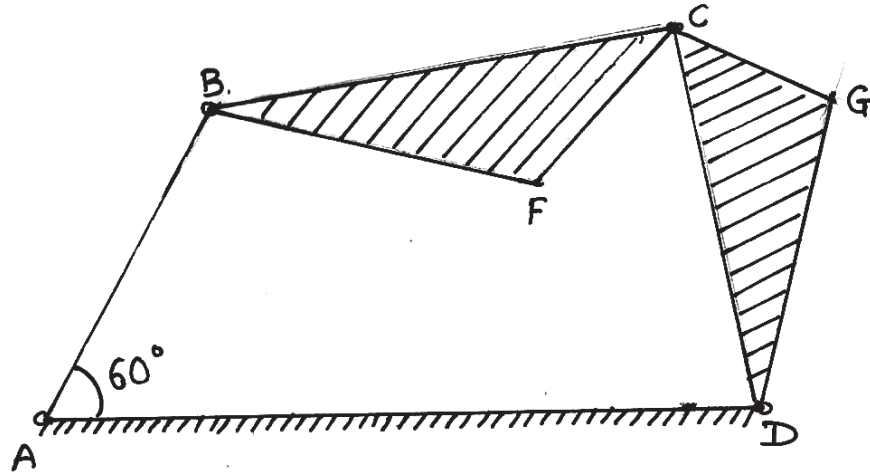

Fig. 2
- (b) The Fig. 2 shows four link mechanism. The link AB has angular velocity of 10.5 rad/s in counterclockwise direction. Find velocity of midpoint of link DGC and angular acceleration of link BCF. The dimensions of links are AD = 100 mm, AB = 50 mm,